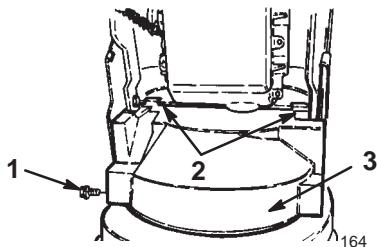

Figure 4
11. Install the lower belt cover on the underside of the auger/impeller housing and the engine frame with two 1/2-inch (1 millimeter) flange-head bolts (Fig. 4).
14. Mount the upper belt cover to the engine frame with three 1/2-inch (1.3 centimeters) flange-head bolts (Fig. 4).